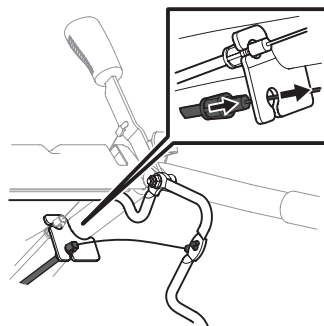

Figure 8
3. Snap the cable tab into place in the lower hole on the handle cable bracket. See Figure 8.